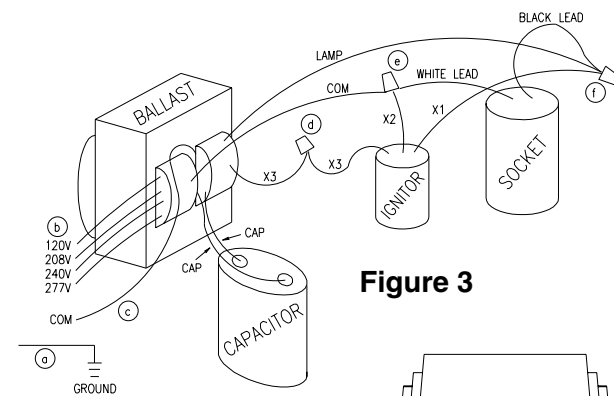

Figure 3
3. Connect wiring according to local code and the National Electrical Code. Secure wiring away from ballast using wire tie (included). Wire ballast to match electrical supply. See Figure 3.
- b. Connect (1) incoming hot lead to the desired voltage.